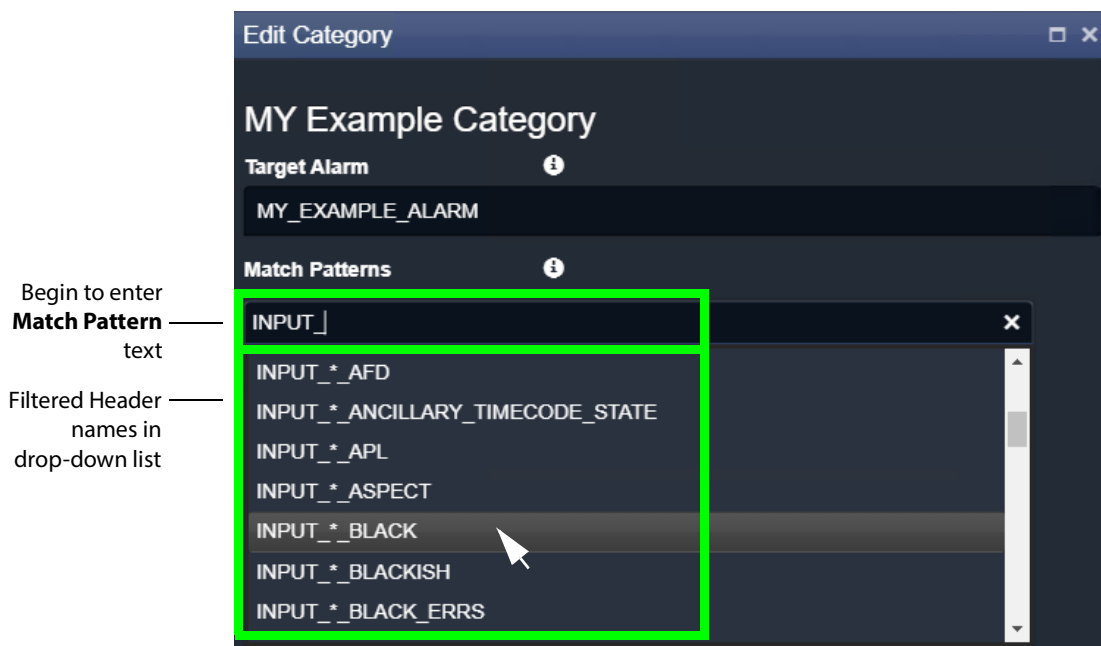

Figure 47: Select a Match Pattern From Drop-Down List
- 2 In the **Match Patterns** text box, begin entering a message Header **Match Pattern** text string. For example, "INPUT_". As the text string is entered, a drop-down list appears showing all the candidate message Header names filtered on the entered text. See Figure 47.